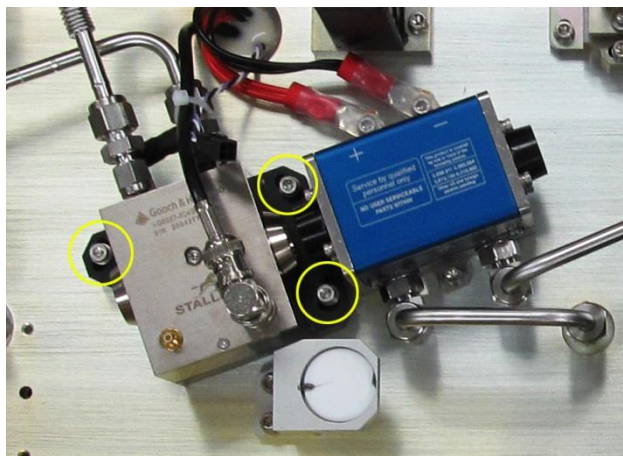

Figure 2-21: Location of Q-Switch Attachment Hardware
4. Remove the three (3) #8-32 x 1 1/4" screws holding the Q-switch assembly to the laser bench (See **Figure 2-21**, below.)